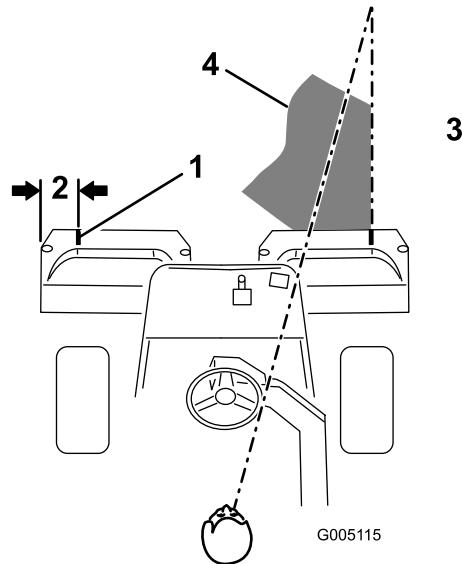
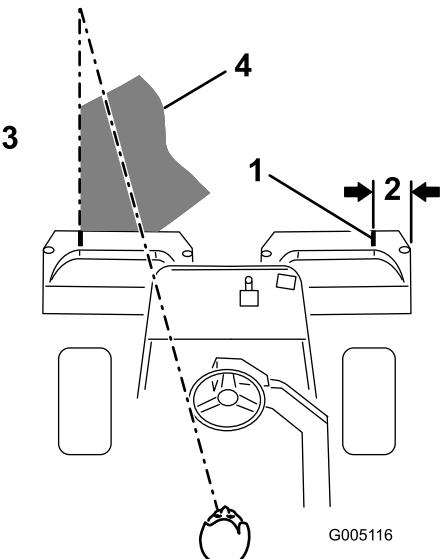

Figure 30
Figure 31
- Either place a strip of white tape or paint a line onto each basket paralleling the outer edge of each basket (Figure 30).
- Overlap a minimal amount with the previous cut on return passes. To assist in maintaining a straight line across the green and keep the machine an equal distance from the edge of the previous cut, establish an imaginary sight line approximately 1.8 to 3 m (6 to 10 ft) ahead of the machine to the edge of the uncut portion of the green (Figure 30 and Figure 31). Some find it useful to include the outer edge of the steering wheel as part of the sight line; i.e. keep the steering wheel edge aligned with a point that is always kept the same distance away from the front of the machine (Figure 30 and Figure 31).